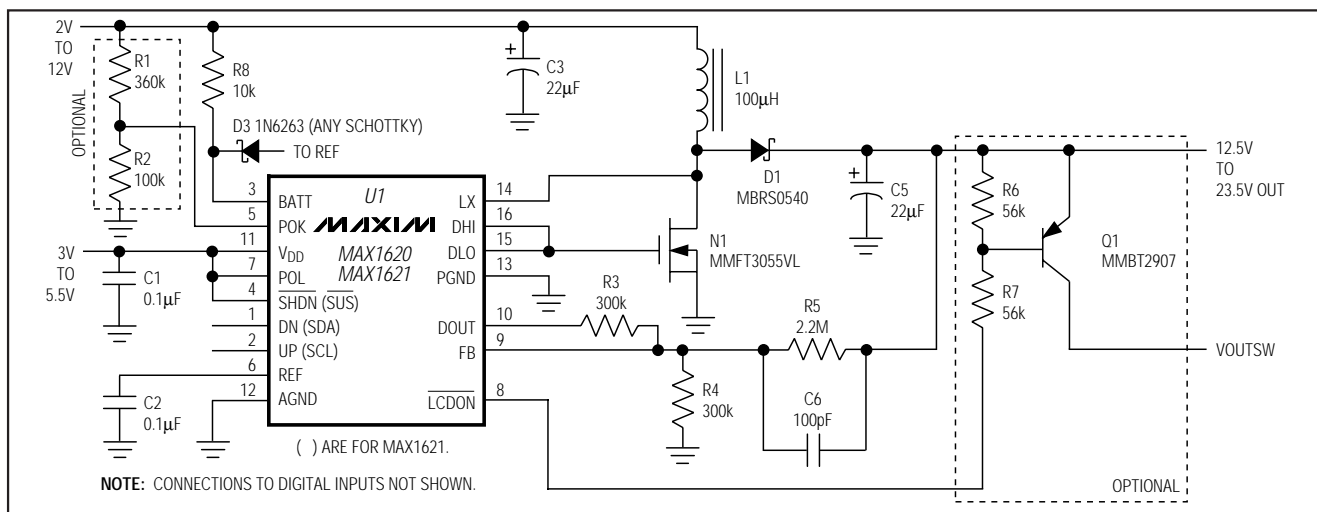

Figure 4. Typical Operating Circuit—Positive Output
To select a positive output voltage, tie the polarity pin (POL) to V_{DD} and use the typical boost topology shown in Figure 4. FB regulation voltage is 1.5V. For optimum stability, V_{OUT} should be greater than 1.1 (V_{BATT}).
To prevent uncontrolled boosting when the output is disconnected, the feedback resistors must sense the boosted voltage rather than the output of the \overline{LCDON} switch (Figure 4).
Separate voltage sources can supply the inductor (L1) and the IC (V_{DD}). This allows operation from low-voltage batteries as well as high-voltage sources because chip bias (150 μ A) is provided by a logic supply (3V to 5.5V) while output power is sourced directly from the battery to L1. Conversely, L1 and V_{DD} can also be supplied from one supply if it remains with V_{DD} 's operating limits (3V to 5.5V). If L1 and V_{DD} are fed from the same voltage, D3 and R8 (Figures 4, 5, 6, and 10) can be omitted, and BATT may be connected directly to V_{DD} .
The minimum output voltage is set with a resistor-divider (R4-R5, Figure 4) from V_{OUT} to AGND. The FB threshold voltage is 1.5V. Choose R4 to be 300k Ω so that the current in the divider is about 5 μA . Determine R5 as follows:
The DAC is adjustable from 0V to 1.5V in 32 steps, and 1LSB = 1.5V / 31. DAC adjustment of V_{OUT} is provided by adding R3 to the divider circuit (Figure 4). Be sure that $V_{OUT,MAX}$ does not exceed the LCD panel rating.
- 3) As an input sensing output cutoff for positive outputs. Connect POK to a voltage divider to sense the input voltage. The output is switched on only when the input reaches the set level (Figure 4).
To control the open-drain output \overline{LCDON} by sensing the input voltage, connect a resistor-divider (R1-R2, Figure 4) from V_{BATT} to POK. Choose R2 = 100k. For example, if the minimum battery voltage is 5.3V, determine R1 as follows: